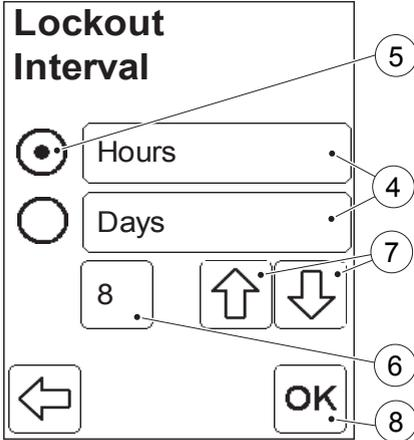
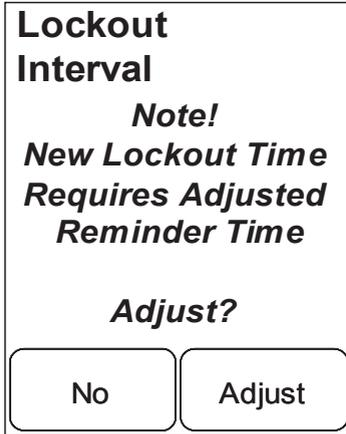
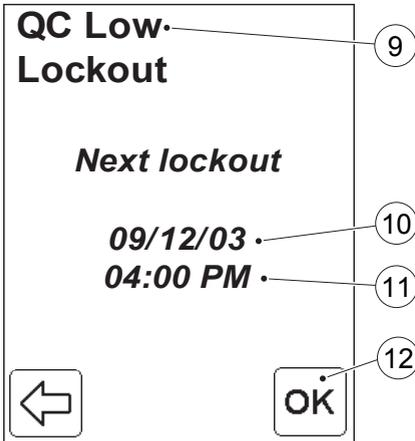

FIGURE 4-69
FIGURE 4-70
FIGURE 4-71
If the reminder time needs to be adjusted, *FIGURE 4-70* will be displayed. Otherwise *FIGURE 4-71* will be displayed.
d) To adjust the reminder time to fit the new QC lockout time, press Adjust. After adjusting to an acceptable reminder time (See FIGURE 4-74), FIGURE 4-71 will be displayed. To return to FIGURE 4-69, press No. The selected time interval until the next QC lockout will then need to be adjusted.